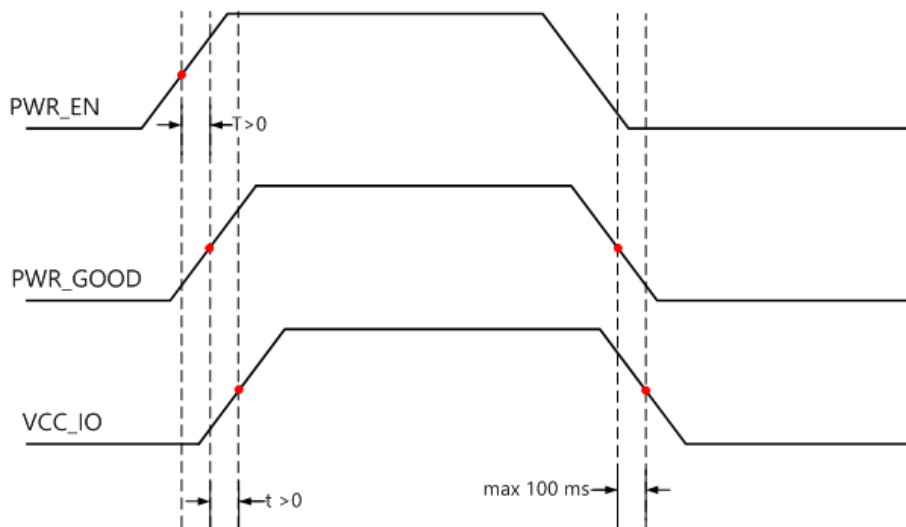

Figure 10: Power-Up Sequence - VCC\_IO in Relation with PWR\_GOOD and PWR\_EN Signals
Do not power the VCC\_IO pins when PWR\_GOOD and PWR\_EN signals are not active. If the module is not powered, you need to make sure that the VCC\_IO voltages are disabled (for example, by using a switch on the base board, which uses PWR\_GOOD as enable signal). Figure 10 illustrates the VCC\_IO power requirements.
*Do not power the VCC\_IO pins (for example by connecting VCC\_3V3 to VCC\_IO directly) when PWR\_EN is driven low to disable the module. In this case, VCC\_IO needs to be switched off in the manner indicated in Figure 10.*